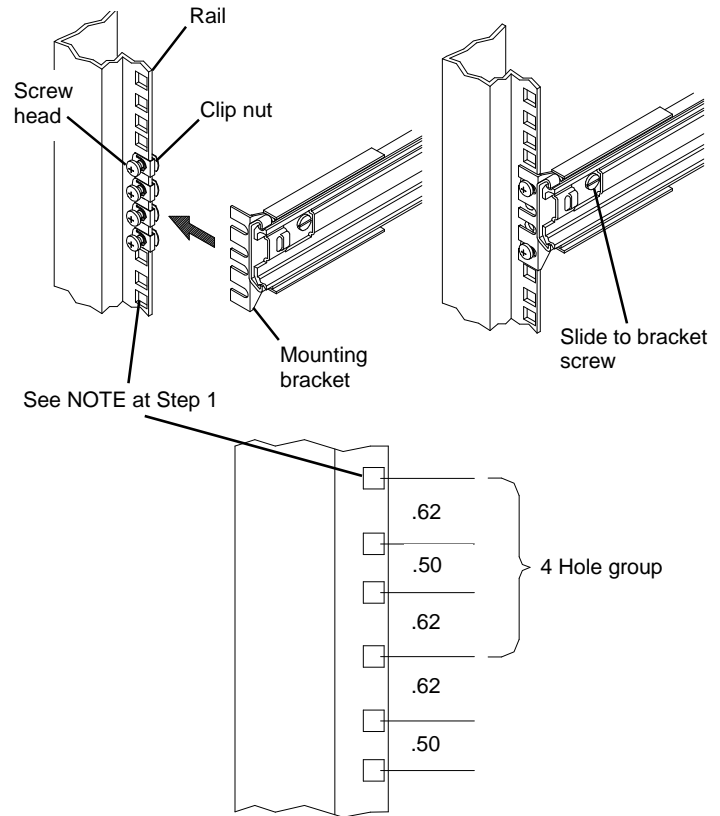

Figure 4
1. Assemble the Slide sections onto the Rack Module rails. Slip the **Mounting Brackets** behind the screw head of the Clip Nut. See **Figure 4**.